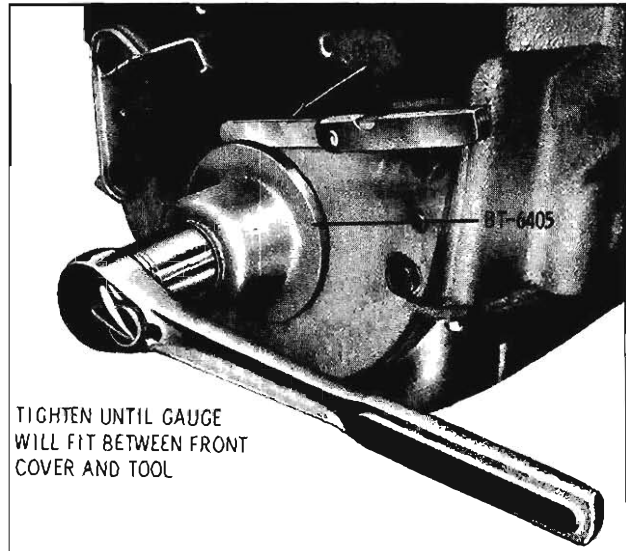

Fig. 3-442 Front Oil Seal Installation
2. Using Tool BT-6405, install oil seal as shown in Fig. 3-442.